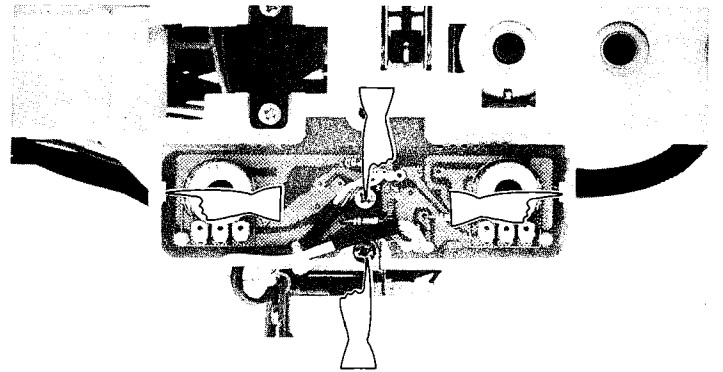

Figure 7-4
1. Remove one screw and two tabs at the super woofer sound control P.W.B., and one screw at the power amplifier P.W.B. Then hold up the power amplifier P.W.B. to remove. See Fig. 7-4.